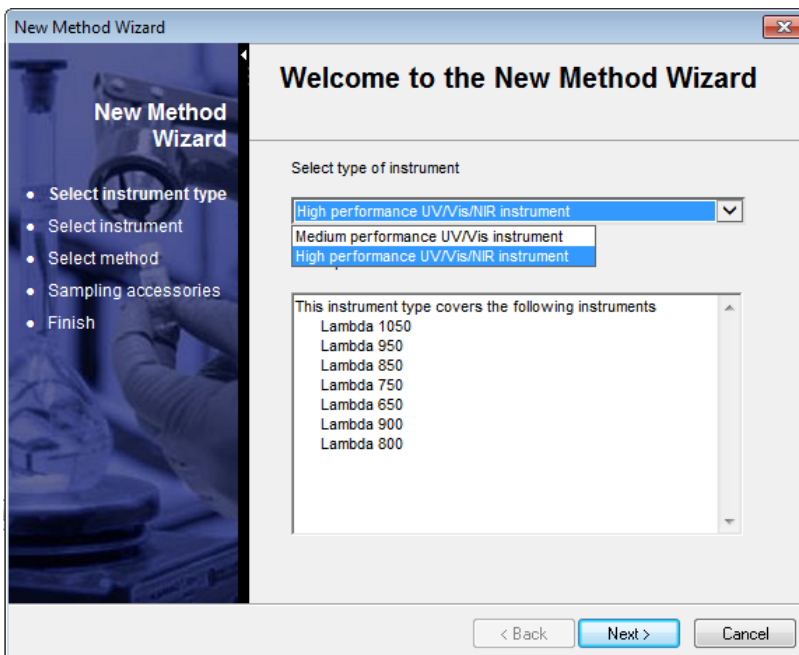

Figure 8: Selection of instrument during new method.
- Select <High performance UV/VIS NIR Instrument>, click <Next> (Figure 8)